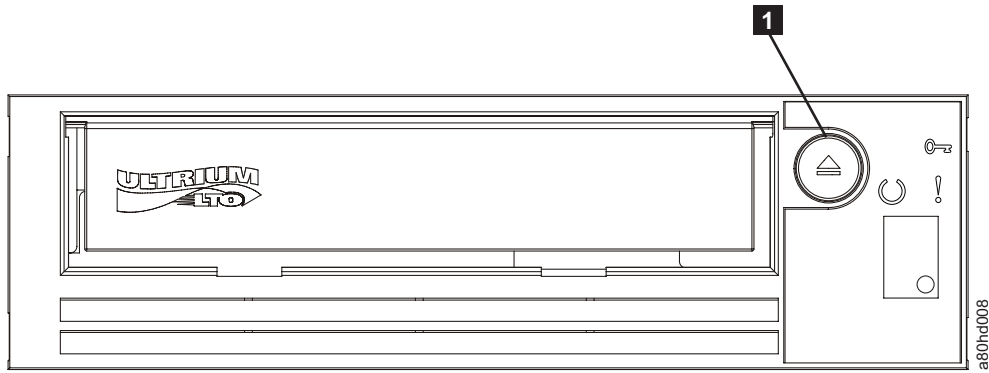

Figure 17. Resetting the Drive
You can reset the drive without powering off the drive and system. This may be necessary if the drive stops responding. To do this, press and hold the eject button on the front panel of the tape drive for 10 seconds (Figure 17 on page 18). The drive forces a dump of vital technical data to drive memory and overwrites the existing dump. The drive then reboots to allow communication.
2. Press the eject button (see **1** in Figure 17 on page 18). The drive rewinds the tape and ejects the cartridge. The ready/activity LED flashes green while the tape rewinds, then goes out before the cartridge ejects.